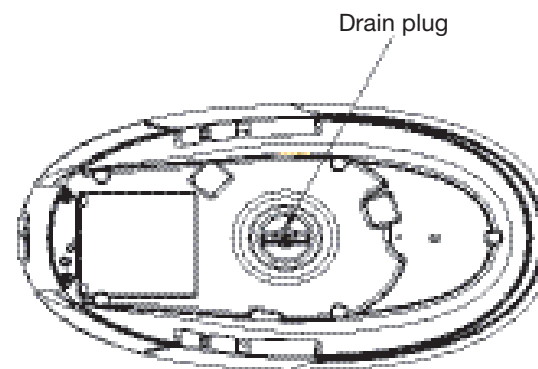

FIGURE 6
1. Turn the boiler over and unscrew the drain plug (figure 6), then empty the water from the boiler.